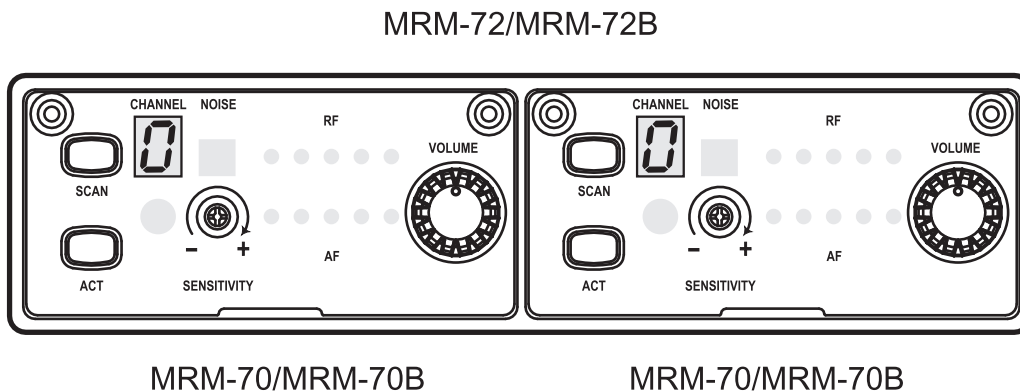

Fig. 13
3. Each MA-808 can also install a dual-channel wireless receiver modules situated at the top slot ⑧ right above the optional CD / MP3 media player. MRM-72 / MRM-72B receiver consists of 2 MRM-70 / MRM-70B receiver modules side-by-side.
4. Installation or replacement of wireless receiver modules, Fig. 13:
- (A) Using a Phillips-head screwdriver (not supplied) remove the screws to remove receiver protection cover panel.
- (B) Gently insert the receiver module with frame into the slot. Make sure the back edge connector is aligned and firmly connected.
- (C) Tighten up the screws.